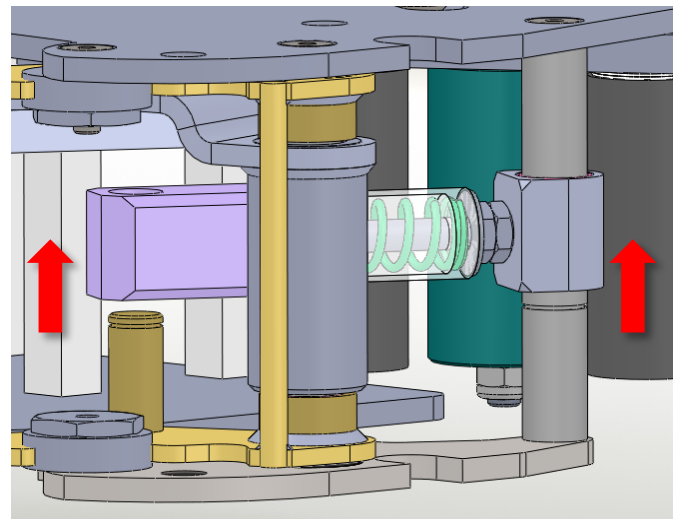

Figure 10-8
2. Slide off the repulsive pivot assembly from current position as shown in Figure 10-8.